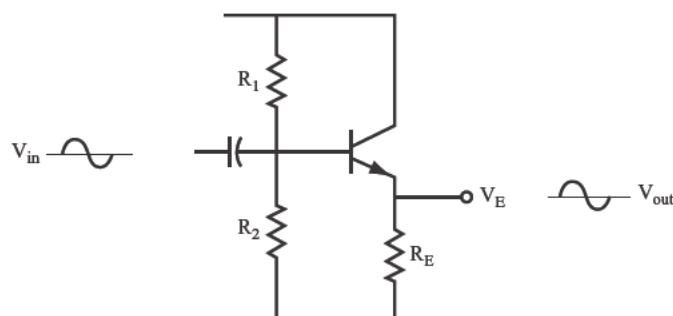

FIGURE 8.23
- 23** Figure 8.23 shows another type of amplifier circuit.
How is the circuit shown in Figure 8.23 different from the amplifier circuit discussed in problems 11–18? _____
24 The circuit shown in Figure 8.23 is called an *emitter follower* amplifier. (In some cases, it is also called the *common collector* amplifier.)